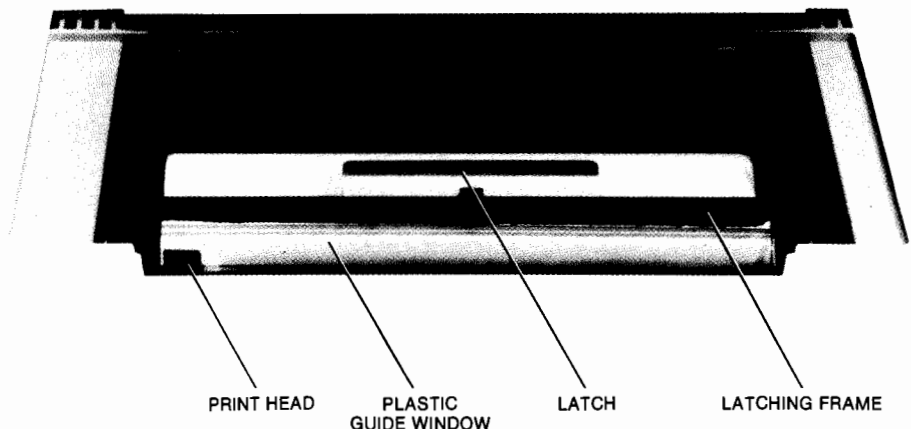

Figure 11-1. Printer Mechanism.
1. Lift the top cover of the printer mechanism (figure 11-1). An illustration of the correct paper position and flow is embossed on the underside of the cover.
*The print head (figure 11-1) is relatively fragile and susceptible to damage; be careful not to strike it while loading paper.*